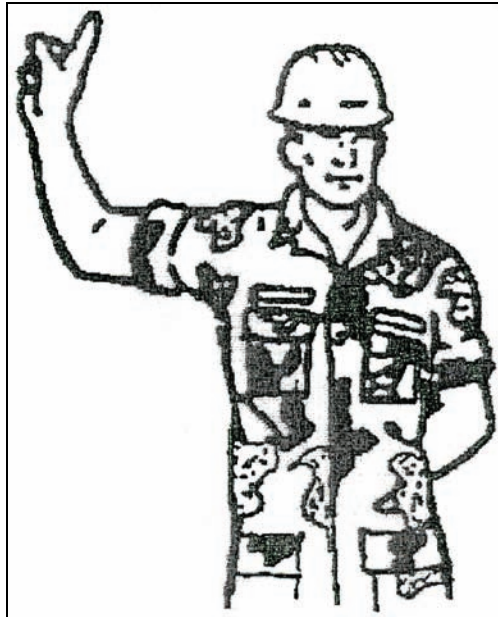

Figure 3-81. Lift Load
3. Use the signal to indicate LIFT LOAD (see Figure 3-81).